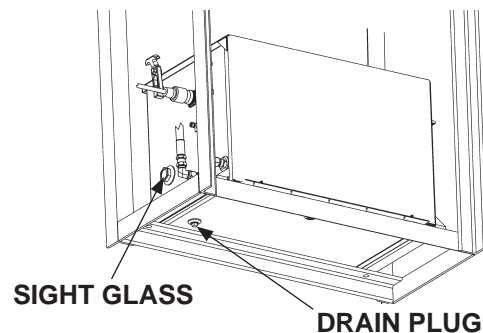
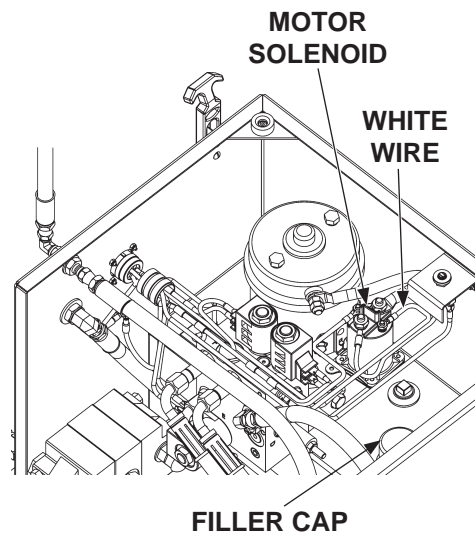

FIG. 16-1
FIG. 16-2
2. Open and lower platform. Remove the drain plug (**FIG. 16-1**). Drain hydraulic fluid from system. Reinstall drain plug.
3. Remove filler cap (**FIG. 16-2**). Refill reservoir until sight glass (**FIG. 16-1**) is half full.
4. Reinstall filler cap (**FIG. 16-2**).
2. Open and raise platform to vehicle bed height. Remove the drain plug (**FIG. 16-1**).
3. Disconnect the white wire (**FIG. 16-2**) from motor solenoid. Lower the platform while draining hydraulic fluid from system. Reinstall drain plug. Reconnect the white wire to motor solenoid.
4. Remove filler cap (**FIG. 16-2**). Refill reservoir until sight glass (**FIG. 16-1**) is half full.
6. Reinstall filler cap (**FIG. 16-2**).